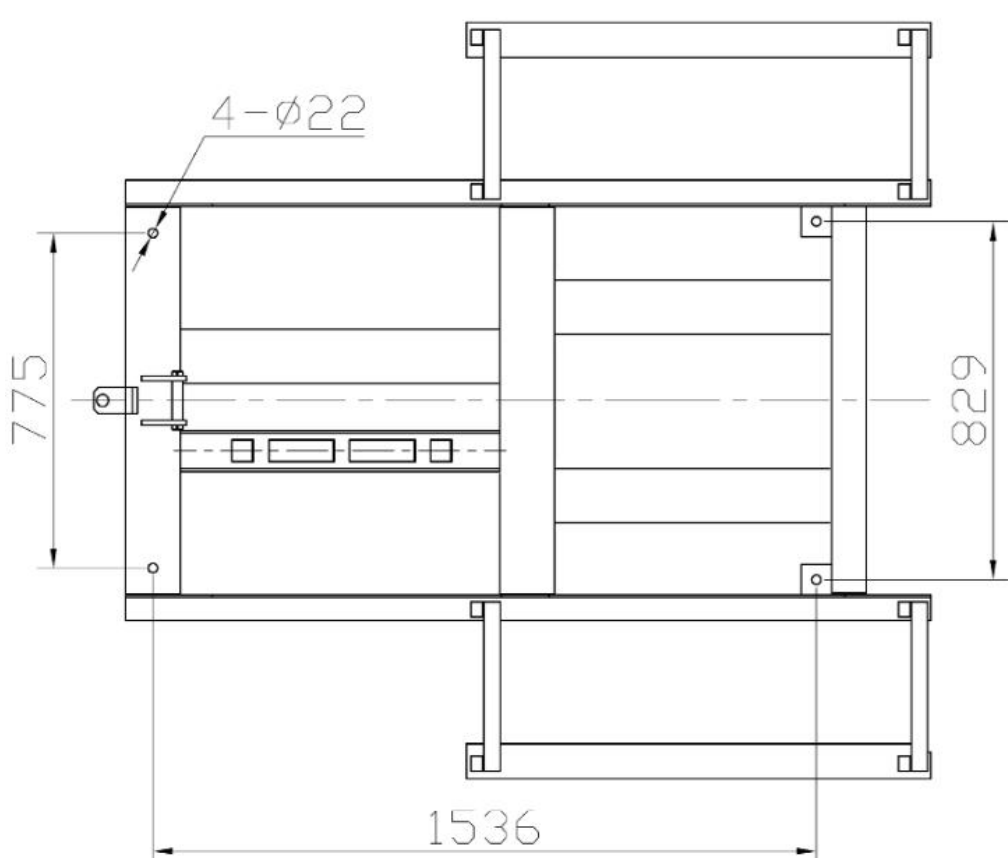

Fig. 18
1. There are four fixed holes in the machine, can fix the machine on ground by 3/4 X 4 3/4" anchor bolts (See Fig.18).